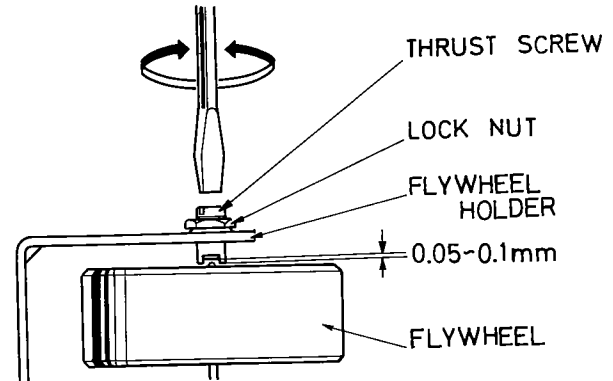

Fig. 5.7
Refer to the Fig. 5.7 and item 3.1, cabinet removal procedure. Adjust the flywheel clearances should be 0.05 to 0.1 mm. After adjustment lock the lock nut.